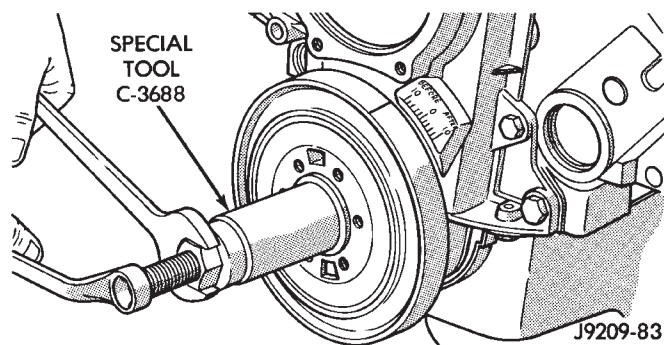

Fig. 21 Installing Vibration Damper
- (1) Position the vibration damper onto the crankshaft.
- (2) Place installing tool, part of Puller Tool Set C-3688 in position and press the vibration damper onto the crankshaft (Fig. 21).
- (3) Install the crankshaft bolt and washer. Tighten the bolt to 183 N·m (135 ft. lbs.) torque.
- (4) Install the crankshaft pulley. Tighten the pulley bolts to 23 N·m (200 in. lbs.) torque.
- (5) Install the accessory drive belt (refer to Group 7, Cooling System).
- (6) Position the fan shroud and install the bolts. Tighten the retainer bolts to 11 N·m (95 in. lbs.) torque.
- (7) Install the cooling fan.
- (8) Connect the battery negative cable.